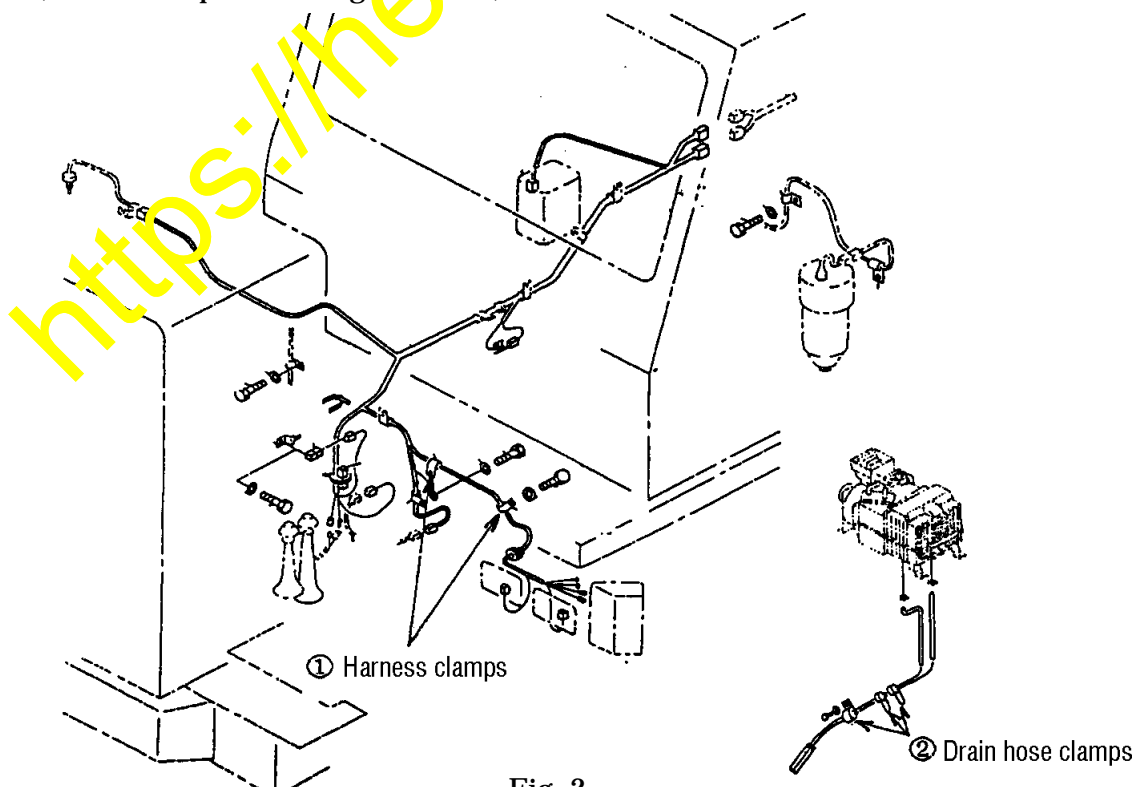

Fig. 2
(2) Clamps for the hoses and harnesses (Refer to Fig. 2.)
- ① Remove the harness clamps (at 2 places) located in the front section on the underside of the operator's cab floor.
- ② In case of an air conditioned vehicle, remove the drain hose clamps (at 3 places).